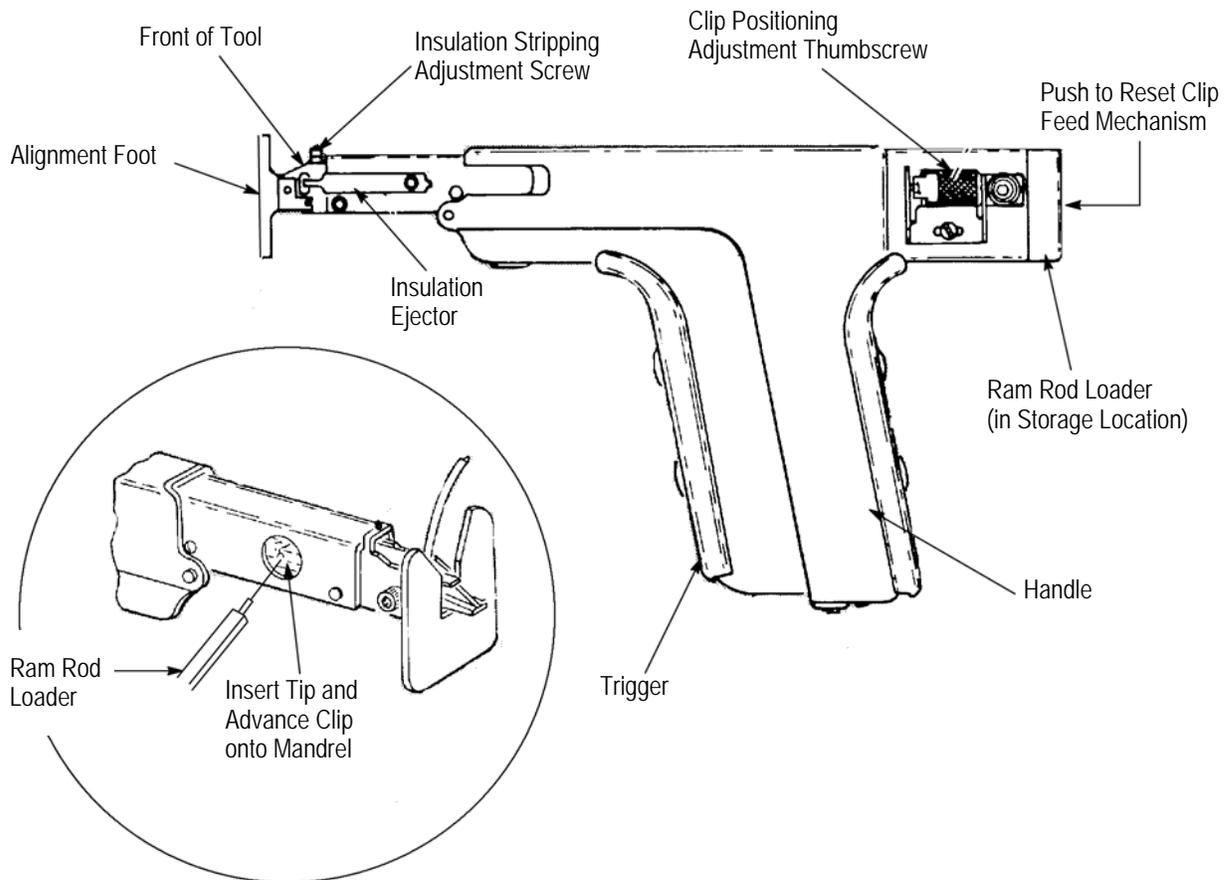

Figure 6
5. Return the ram rod loader to the ram rod storage section of the tool. See Figure 6.
The clip positioning adjustment thumbscrew (Figure 6) controls the position of the clip when it is applied to the post. When applying three clips to a post, set the positioning adjustment thumbscrew to "3." This positions the first clip at the bottom of the post. Then set the positioning adjustment thumbscrew to "2" in order to place the second clip in the middle of the post. Finally, set the positioning adjustment to "1" to position the third clip on the top of the post. When applying two clips to a post, begin with the "2" setting, and when applying one clip to a post, use the "1" setting. Use the following procedure to make an adjustment.
The TERMI-POINT tool has an adjustment screw (shown in Figure 6) to control the stripping action provided when the push rod forces the clip over the mandrel. These tools are set at the factory and should not require adjustment. However, if the tool is not stripping the wire properly (i.e, nicked conductor strands or insulation not stripped from the wire), adjust the tool as follows: